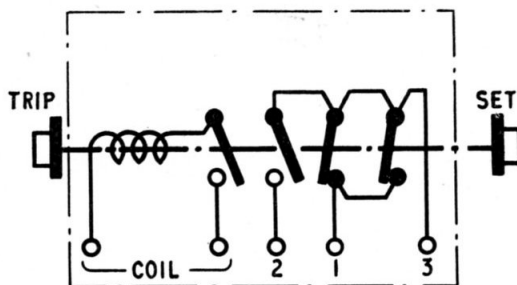

Fig. 3. Wiring diagram
4. Tripping may also be effected electrically. When the solenoid is energized, the armature is pulled towards the core and releases the trip arm to restore the switch contacts to their original setting, i.e., top contacts closed, bottom contacts open. The wiring of the unit is shown in fig. 3.